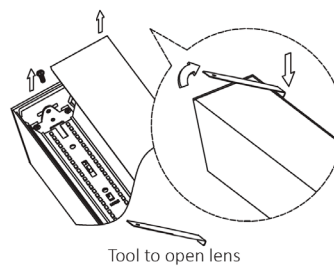

Fig. 1.1
1. Remove the lens with the tool provided (Fig. 1.1)